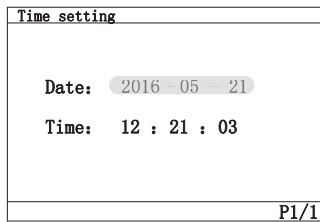

Figure 3-3 Time Setting
8.) Time Setting: The date and time can be set as in Figure 3.3: